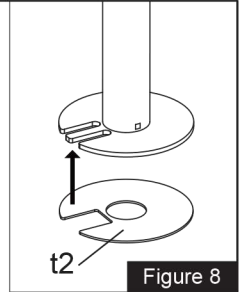

Figure 8
3. Attach Soft Pad(t2) to the Grommet Base Plate(m), see Figure 8.